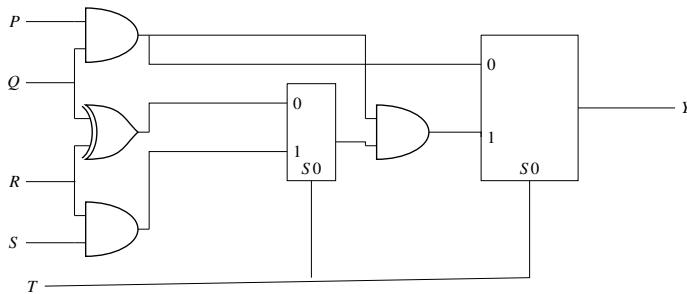

Fig. 4.27
52. The circuit shown in Fig. 4.27 comprises of XOR, AND gates and multiplexers. If all the inputs P, Q, R, S and T are applied simultaneously and held constant, find Y .